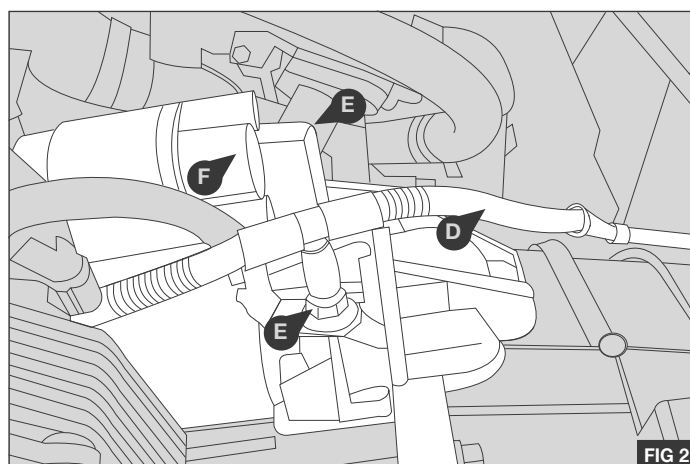
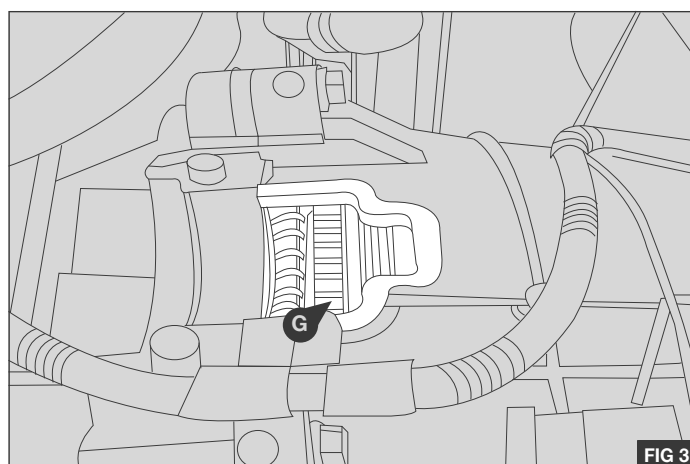

FIG 2
FIG 3
4. Temporarily move the cable (D) to gain access to the starter motor bolt (E) - Fig 2
5. Temporarily remove the two bolts (E) that fasten the starter motor (F) to the engine - Fig 2
6. Move the starter motor (F) to gain access to the flywheel ring gear.
7. Using a suitable tool lock the engine ring gear at point (G) - Fig 3